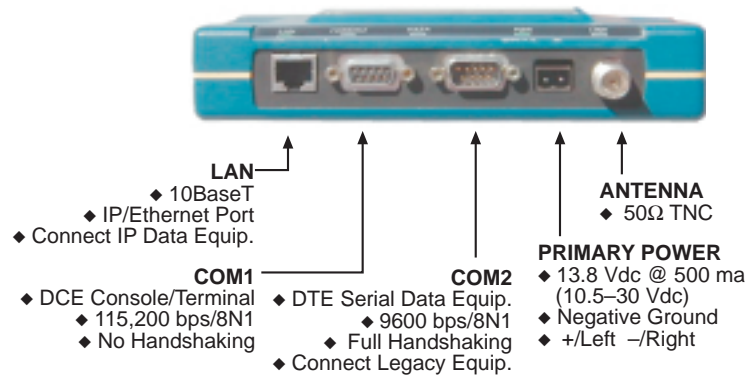

Figure 9. MDS iNet Interface Default Configuration & Functions
Connect the data equipment to one of the transceiver's three ports: LAN, COM1 or COM2. Use only the required pins for the application—do not connect anything to unused pins. See Figure 19 on page 33 details on COM1 Port and Figure 20 on page 34 for the COM2 Port. Figure 9 on page 16 identifies the port's factory defaults.
Figure 9 on page 16 shows the default functions and services for the front panel interface connectors. The three data ports—LAN, COM1 and COM2—are user configurable through the use of a terminal connected to the COM1 port or a HTTP browser through the Ethernet port.
NOTE: The data communications parameters and functions described in the installation procedures and shown in Figure 9 on page 16 are based on factory defaults. If the COM1 Port is configured to transport data, connect to it with a terminal program and use the **ESC + K** sequence to reset the radio's data interface ports to the default settings.
- a. Connect a personal computer’s serial communications port (COM1 or COM2) to the COM1 Port connector on the radio transceiver. (See Figure 9 on page 16 for location. Data defaults: 115,200 kpbs/8N1.)
- a. Connect a personal computer’s Ethernet port to the EHTERNET Port connector on the radio transceiver. (See Figure 9 on page 16 for location.)
Connect a personal computer's Ethernet port to the ETHERNET Port connector on the radio transceiver. (See Figure 9 on page 16 for location.)